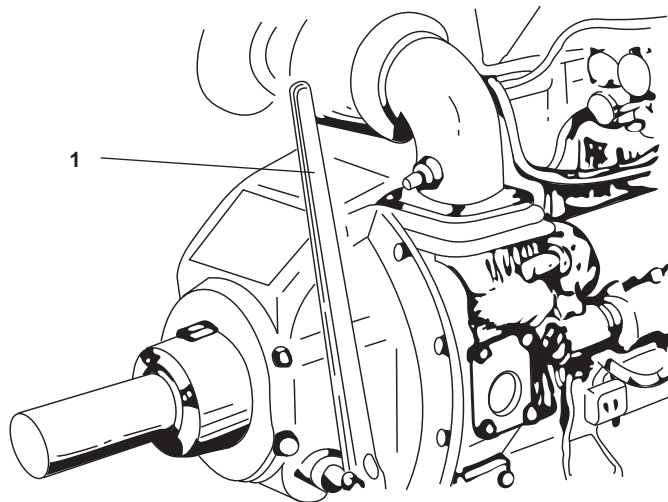

Figure 4. Pump Drive Engine Power Take-Off
- a. Place the firefighting pump power take-off control lever (figure 4, item 1) in the disengaged (aft) position.